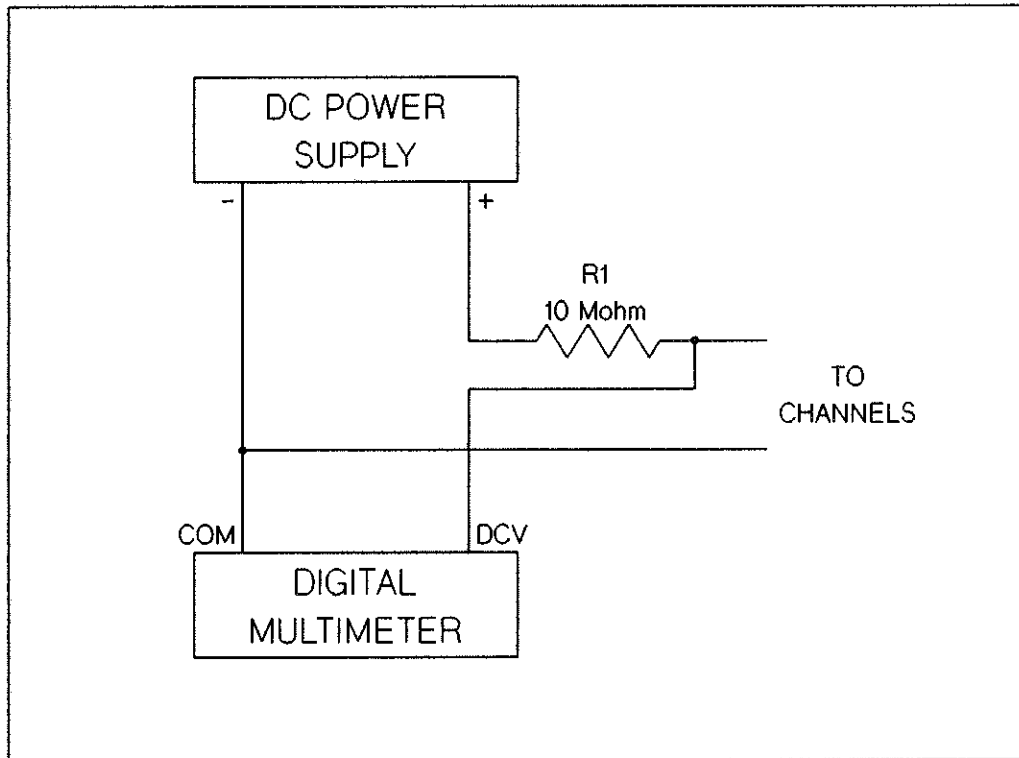

Figure 8-14 HP 44705A/H DC Isolation Set-Up
3. Connect the resistor, power supply and multimeter as shown in Figure 8-14.